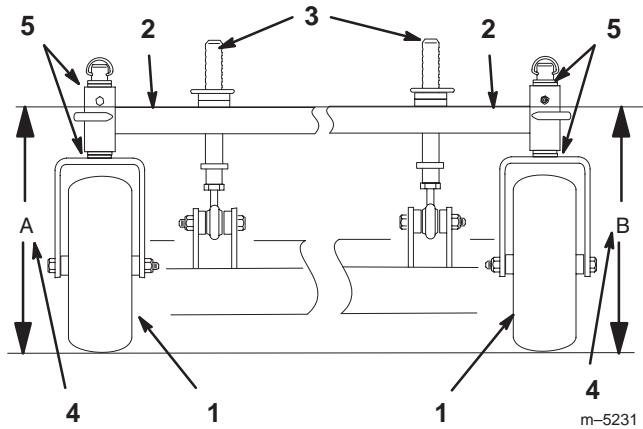

Figure 51
3. Measure carrier frame height at location **A** (Fig. 51).
4. Measure carrier frame height at location **B** (Fig. 51).